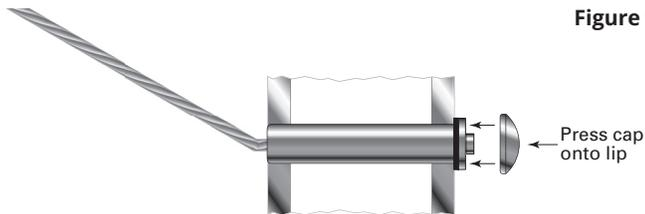

Figure 9
- Press the cap onto the lip of the Pull-Lock® fitting. (Figure 9)